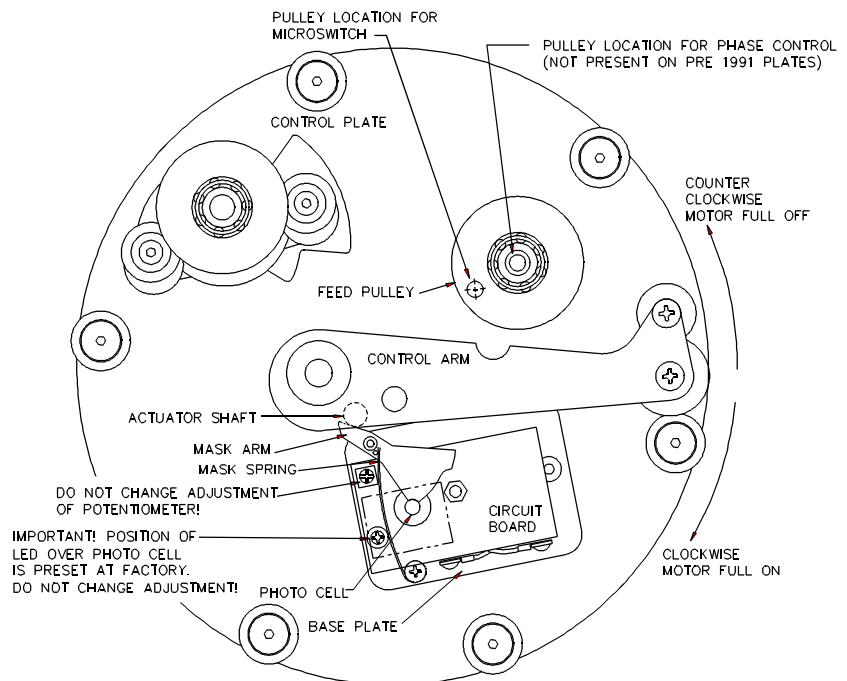
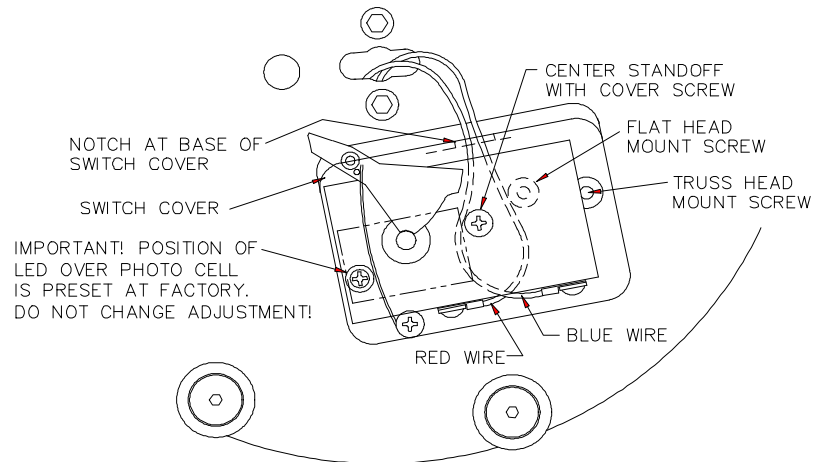

Figure 1
Figure 2
3. Relocate the feed pulley to the hole designated for use with the Phase Control (See Fig. 1). This hole is not present on Control Plates manufactured before 1991. The Phase Control will still function if the feed pulley is not moved, however best operating results will be obtained if it is moved. Part number 1843 (Drill Template Kit) is available if you need to add the hole.
4. The actuator shaft (See Fig. 1) on control plates manufactured before 1991 is made of plastic. Using a steel shaft here will improve the performance of the Phase Control. Order part number 1265 (Shaft), and part number 1069 (Screw) to replace the plastic shaft.
5. Remove the screw and washer from the Phase Control cover. Position the Mask Arm in the center of its vertical slot and remove the cover. Position the uncovered Phase Control on the Control Plate and route the red and blue wires between the Base Plate and the Circuit Board, one on either side of the center standoff, and connect the wires to the switch (See Fig. 2). **The Phase Control will not function correctly if the wires are reversed.**
6. Use the two mounting screws provided to attach the Phase Control to the Control Plate. Be sure the Mask Arm is located correctly in relation to the Actuator Shaft (See Fig. 1). The flat head screw goes in the mounting hole closest to the center standoffs,. The truss head screw goes in the mounting hole closest to the edge of the Phase Control (See Fig. 2).